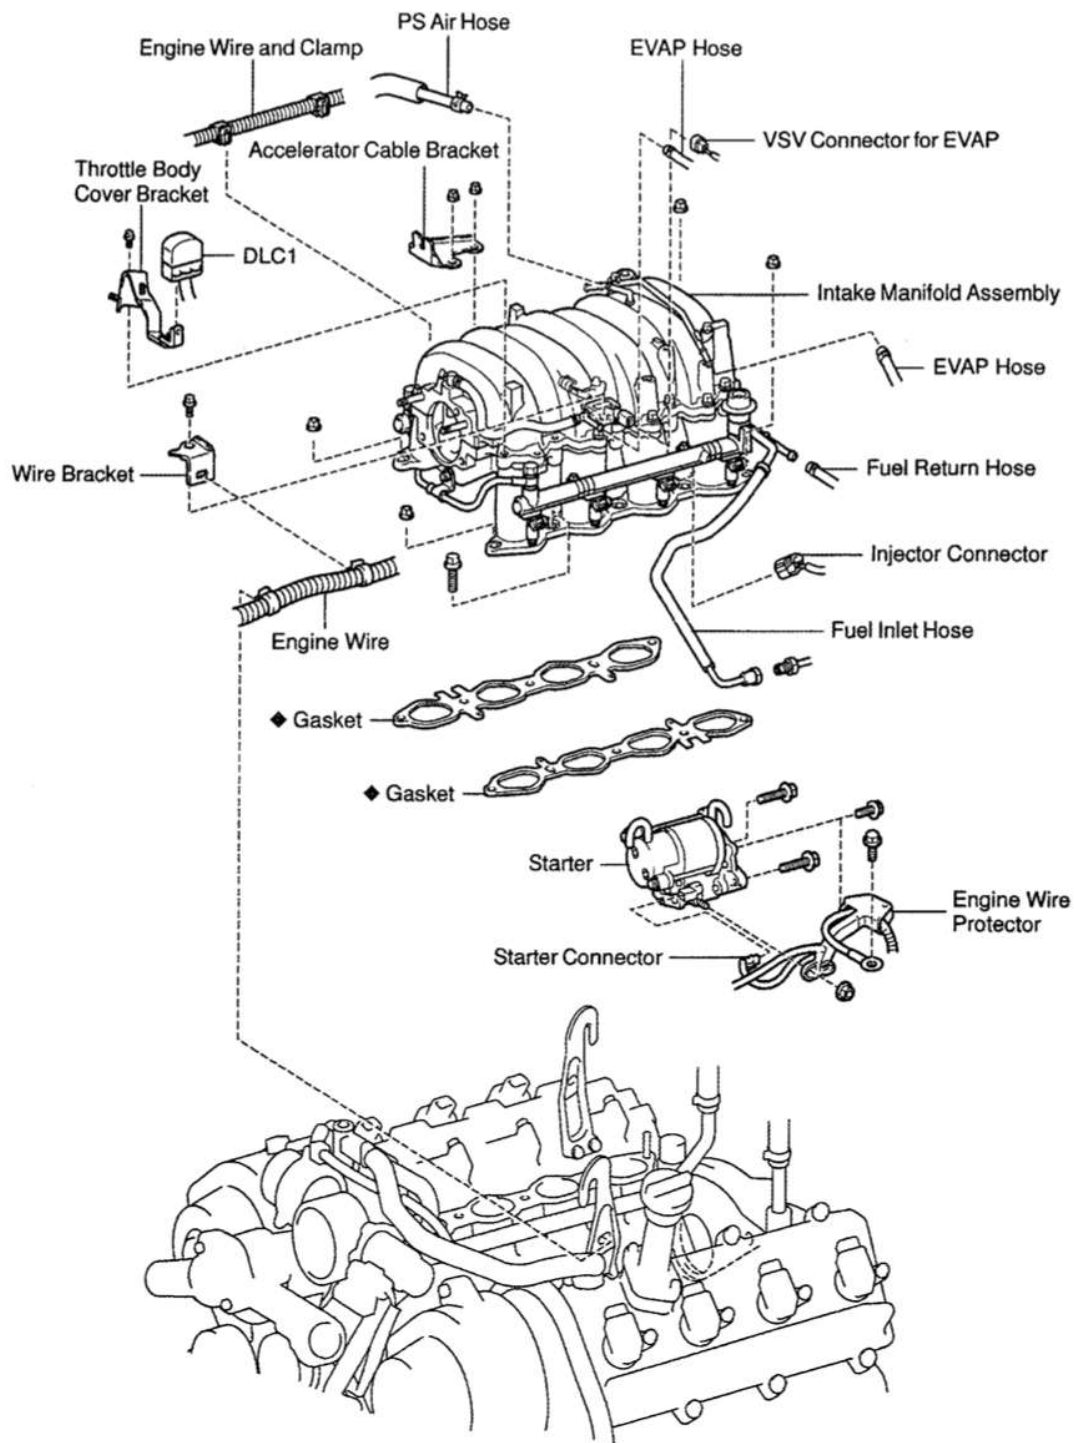

Fig. 17: Locating Intake Manifold & Starter Components (Land Cruiser, Sequoia & Tundra V8)
1. Starter is located underneath intake manifold. See **Fig. 17** . Disconnect negative battery cable. Remove cover from top of engine. Remove air cleaner intake hose. Disconnect accelerator cable. Remove intake manifold. See CYLINDER HEAD & MANIFOLDS in 4.7L article in ENGINES.